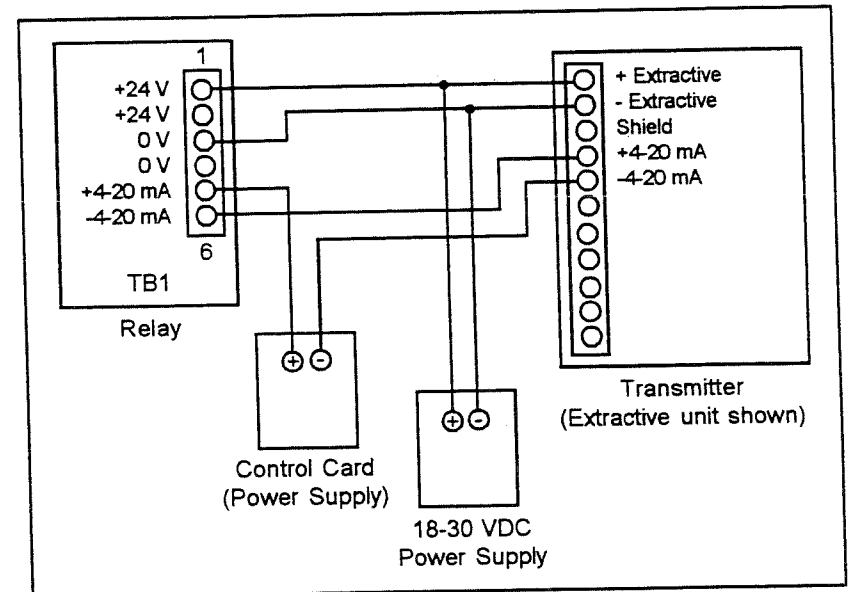

Figure 29. Relay Module Wiring Diagram (Typical)
When wiring the Relay Module option, separate power supplies should be used for power (18-30 VDC) and the 4-20 mA power. Refer to Figure 29. Do not use jumpers across the 4-20 mA and 18-30 VDC lines.
1. Verify the relay and transmitter are properly wired (refer to Figure 29).